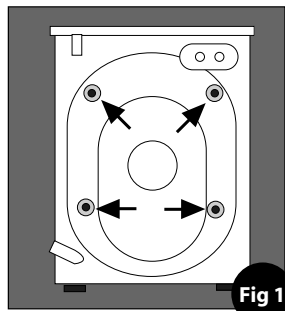

Fig 1
- After positioning the washer-dryer near the installation location, remove the four screws (Fig.1), with the rubber grommets and plastic spacers that are attached to them.